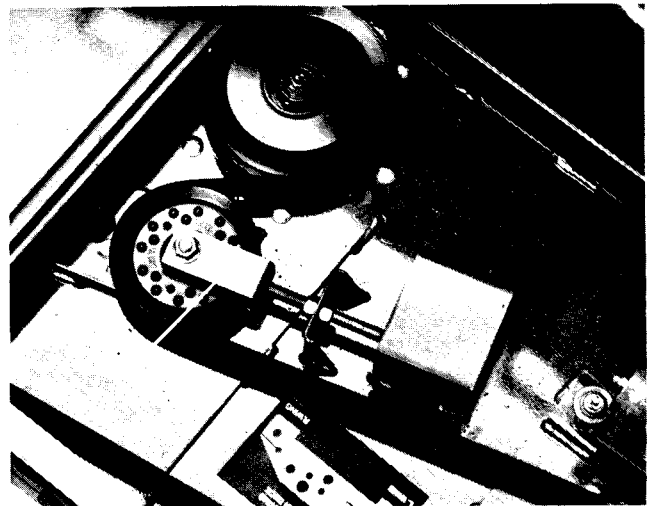

Figure 21
2. Loosen jam nuts securing tension arm until compression spring on idler assembly is relaxed (Fig. 21).